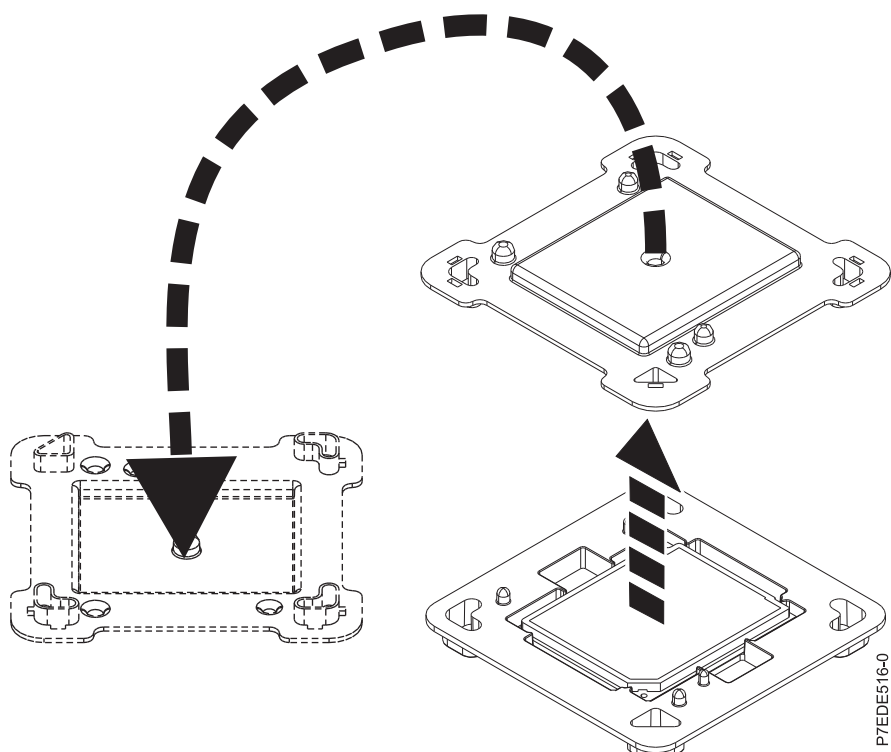

Figure 31. Opening the microprocessor packaging
6. Open the packaging of the new microprocessor, and place the cover upside down next to the tray, as shown in Figure 31 on page 70. The cover will be used for the microprocessor that you are replacing.